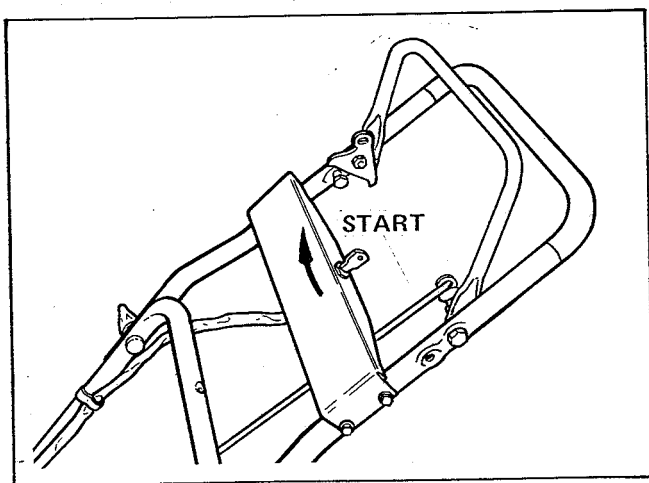

Figure 10. Turn Key to START
- On Electric Start Mowers, insert ignition key (see figure 10) and turn it clockwise to START position. Release key when the engine starts. Key will automatically return to ON.